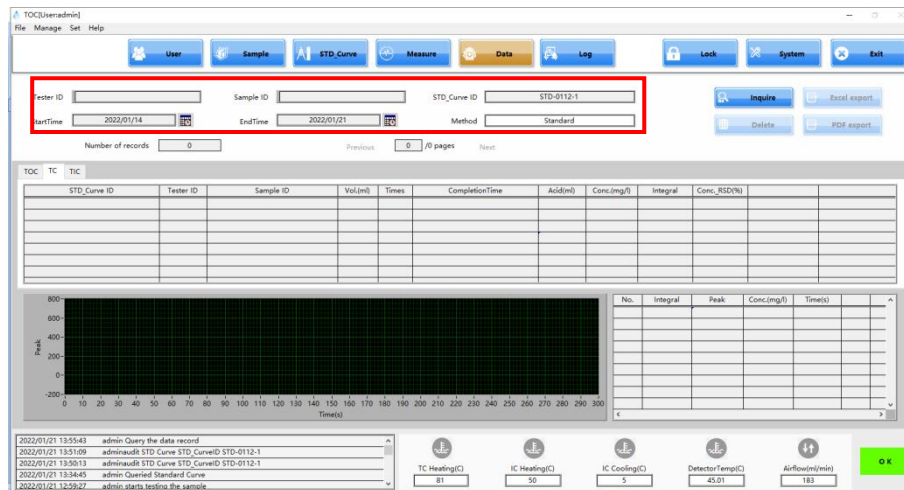
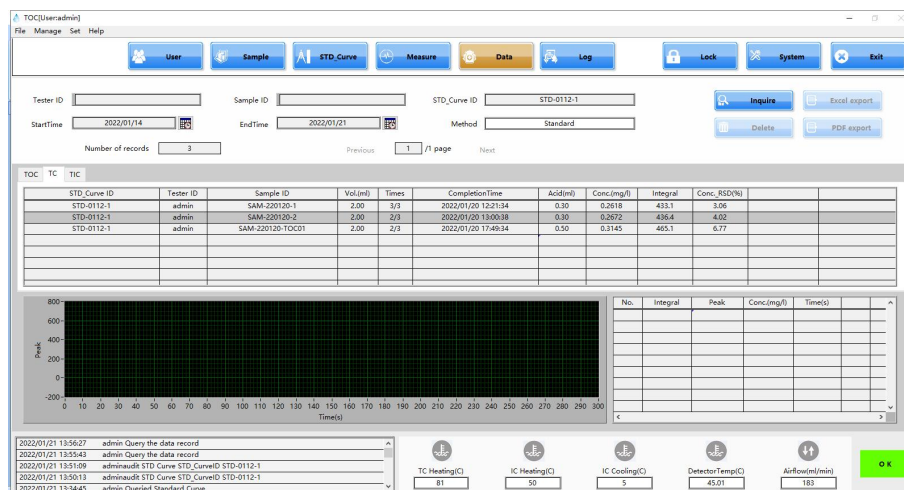

Fig 4.91
Fig 4.92
1. Click  to enter the measurement record interface (Fig 4.91).
2. After setting the index such as 'Tester ID', 'Start Time', 'End Time', 'STD_Curve ID', 'Sample ID', 'Method' (Fig 4.91), click . Then select the sample data need to be exported (Fig 4.92).